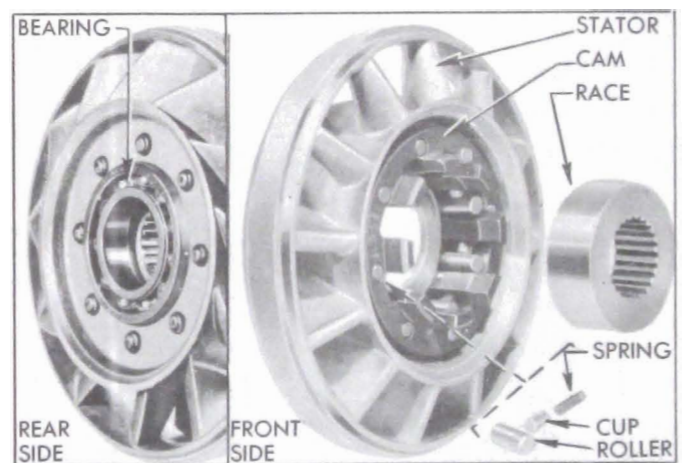

Figure 4-18—Stator and Free Wheel Parts
5. Remove ball bearing from rear side of converter stator, push the free wheel roller race out of the free wheel cam in front side of stator, then remove all rollers, cups, and springs from the cam. See figure 4-18.
The bearing must be fully seated in the counterbored recess and the outer race must be free to turn. See figure 4-18.